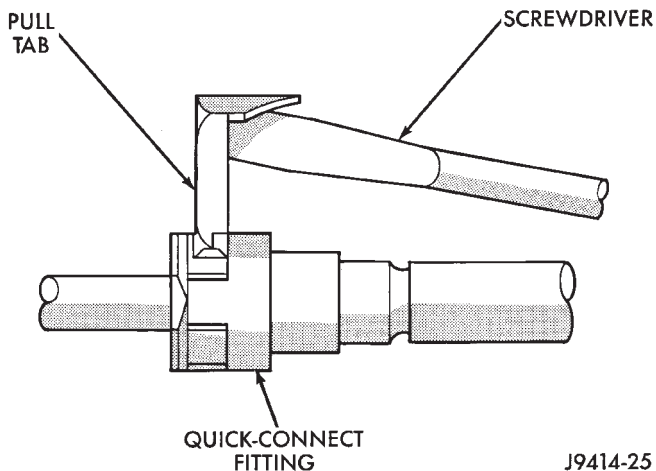

Fig. 17 Disconnecting Single-Tab Type Fitting
- (a) Press release tab on side of fitting to release pull tab (Fig. 17). **If release tab is not pressed**
(b) While pressing release tab on side of fitting, use screwdriver to pry up pull tab (Fig. 17).